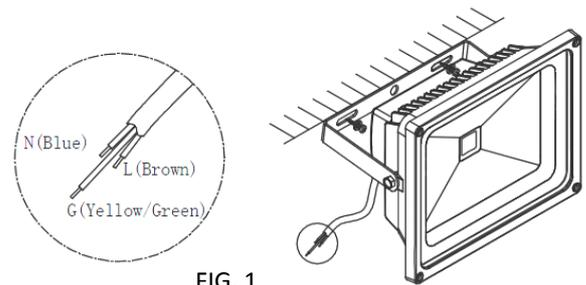

FIG. 1
3. Use expansion bolts to secure the fixture on mounting surface. (See Fig.1)